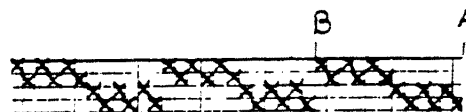

Figure No.4
1. Colonial Over-shot Patterns. It is very easy to design Colonial over-shot pattern drafts from these key drafts. It is possible to write four pattern blocks on a four harness loom, but we will only use two of these, namely the 1&2 pattern block, and the 3&4 pattern block. We will use two threads on the 1&2 pattern block for each unit of the key draft on the first line, and two threads on the 3&4 pattern block for each unit of the key draft on the second line. Now refer to Figure No.1, and see that there are 3 units on the first pattern block, and three on the second, so the actual pattern draft which may be written will be 1,2,1,2,1,2, for the first pattern block, and 3,4,3,4,3,4, for the second pattern block. Written out graphically as at Figure No.4, three repeats are given, as in